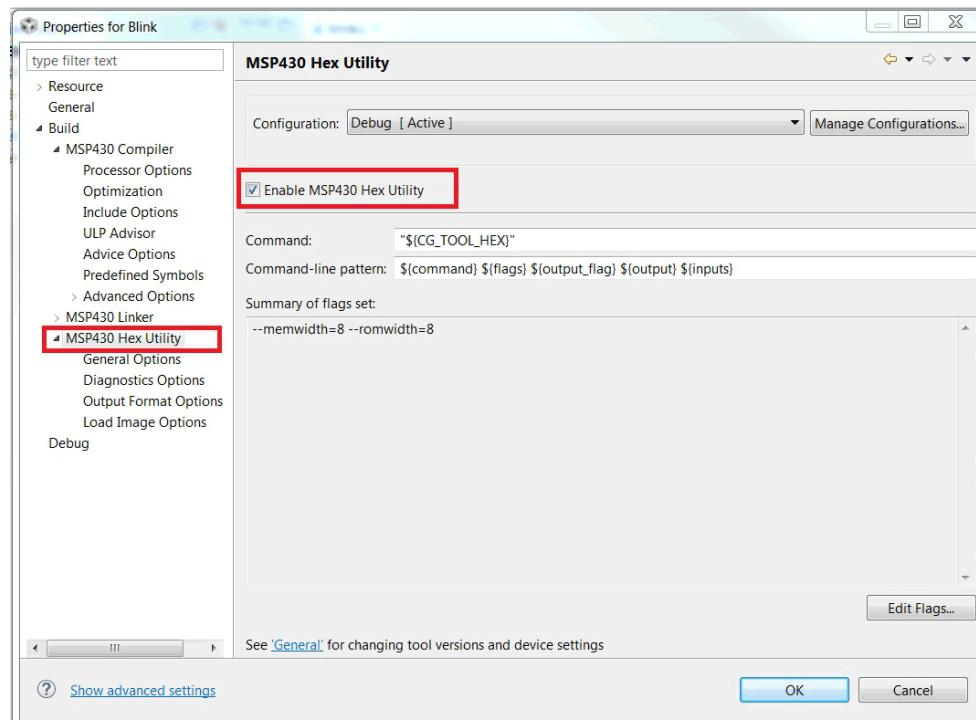

Figure 4. CCS – Enable MSP430 Hex Utility
2. Click **Build → MSP430 Hex Utility**, and then select **Enable MSP430 Hex Utility** (see Figure 4).